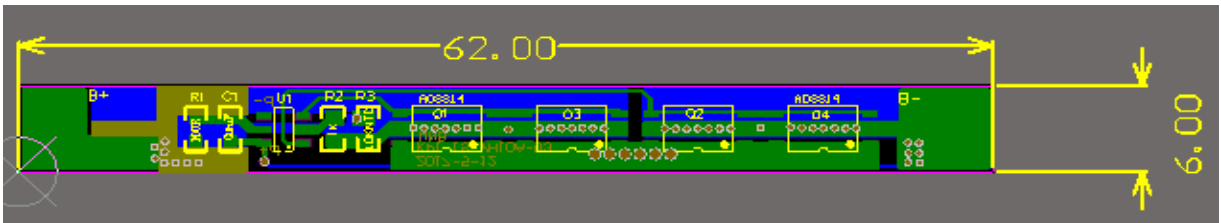

Figure 3 PCB Size Form Diagram
2.5PCB Size Form Diagram Refer to Figure 3